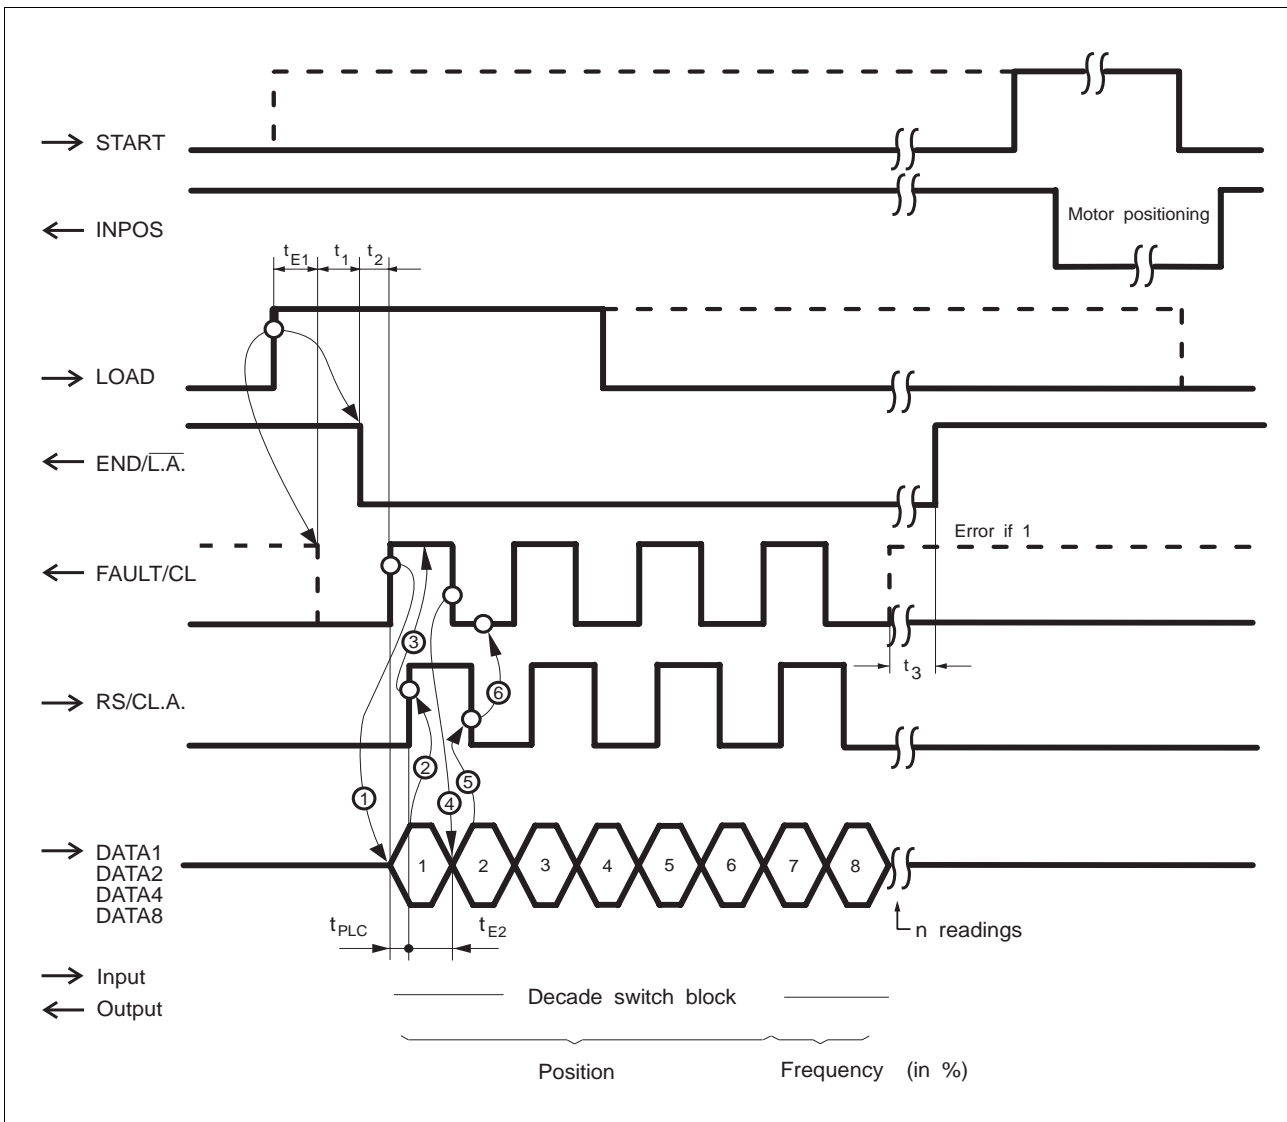

Fig. 3-32 Timing diagram for parallel data transfer
4. Read in decade values with the control signals RS/CL.A. and FAULT/CL in accordance with timing diagram (fig. 3-32).